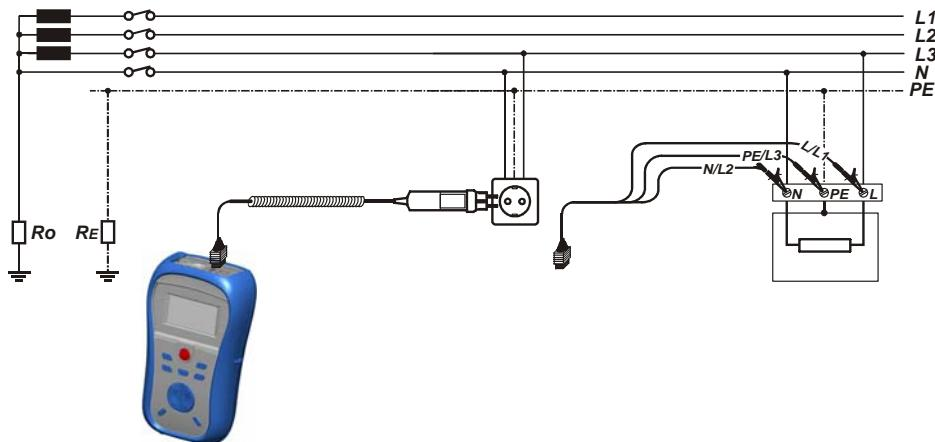

Figure 5.29: Connection of plug cable and universal test cable
- Connect** test leads to the item to be tested (see *figures 5.29 and 5.22*).